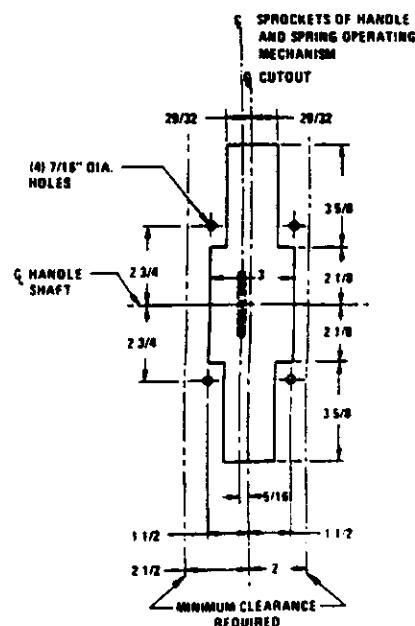

Fig. 2
- If not already provided, cut opening and drill or punch four 7/16" diameter mounting holes in left front of enclosure per details in Fig. 2. (This information may also be found on chain-drive operating mechanism Dwg. 316-557.)